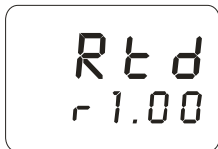

Figure 12: Successful field calibration lockout
- If field calibration lockout is successful, the version-model window appears without the CAL indicator (Figure 12).